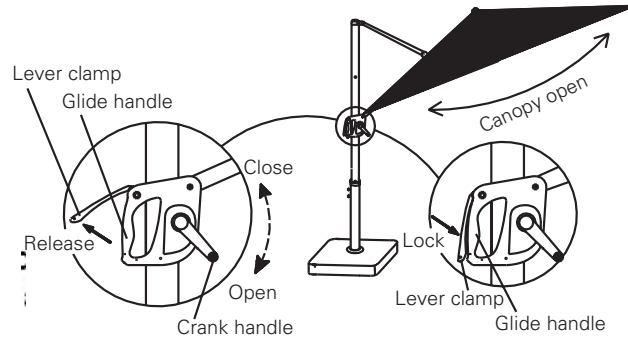

Fig. 6
Step 2. To open the umbrella, turn the crank handle in the open direction, pull up the Lever clamp, slide the glide handle up along the pole. Push down the Lever clamp when the desired tilting angle has been achieved. (The higher the glide handle, the less the tilting angle. See Fig. 6 for the definition of the Tilting angle). To fully open the canopy, continue to turn the crank handle in the open direction until the lower center hub reaches the end of the support pole and the canopy has the proper tension.